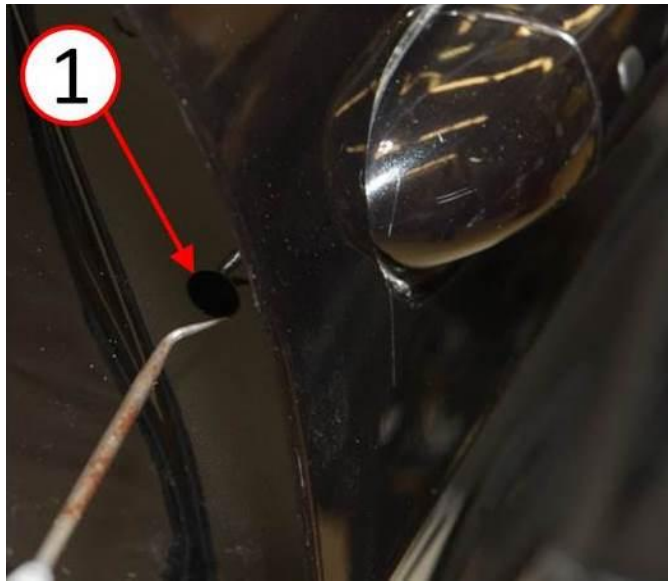

Fig. 3 Insert Pick Tool Into Access Hole
3. Insert a right angled pick or equivalent tool into the access hole (Fig. 3).